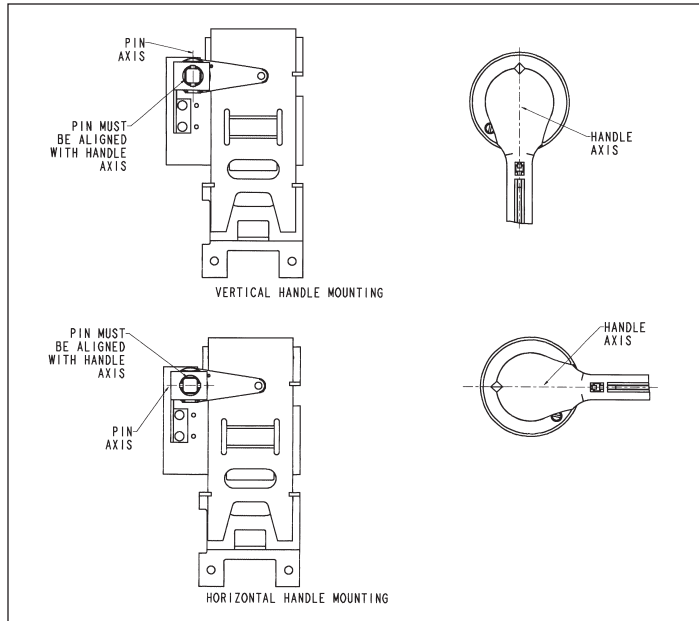

Figure 5. Handle Orientation.
4. Place the square end of shaft into the square opening of die cast pivot link on the operating mechanism attached to the circuit breaker. Ensure the pin is in the shaft and correctly oriented with respect to anticipated handle position (vertical or horizontal handle placement, see Figure 5).